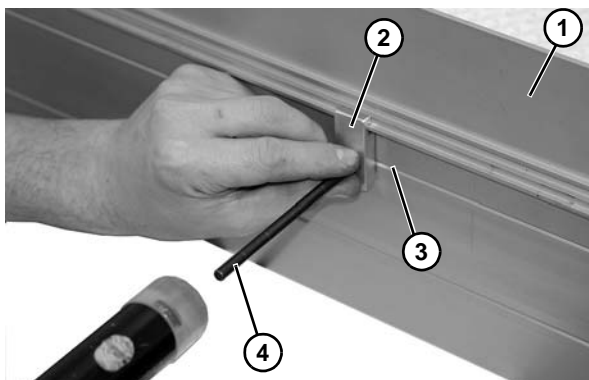

Figure 25
1. Locate guide (**Figure 25, item 1**) and retaining clip (**Figure 25, item 2**) and hold to side rail. Hole should line up with notch (**Figure 25, item 3**) in side rail. Mark the hole locations with a center punch (**Figure 25, item 4**) and remove the bracket.